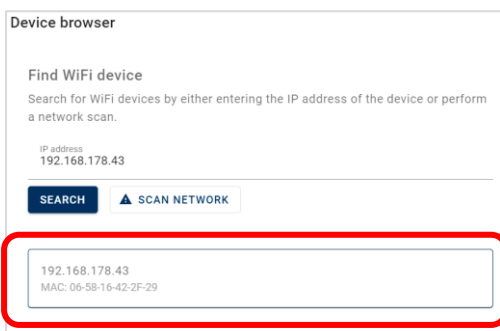

Figure 36
6. Select the tablet's IP address (Figure 36). The IP address can be found in the tablet settings. Use the tablet's search function to find. The successful connection is indicated by a green check mark.